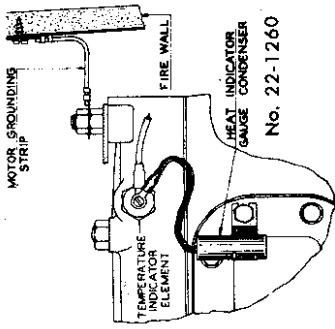
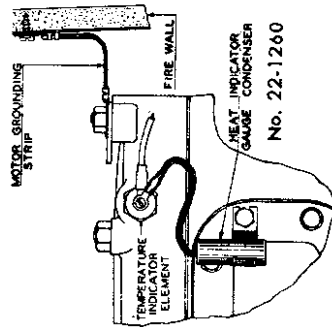

Fig. 7A.
Fig. 7B.
Attach the condenser lead to the water temperature element in the head. (Fig. 7A.)
5. Remove the tape from the hole (located near the left rear cylinder head nut) in the dash. Fasten the flat ground strip to this hole with a sheet metal screw and lock washer. On the six cylinder car, place the other end of the strip on top of the regular stud nut, and fasten it in place with the special nut furnished in the installation kit. (Fig. 7A.) On the eight cylinder cars, bolt the other end of the strip under the regular stud nut. (Fig. 7B.)